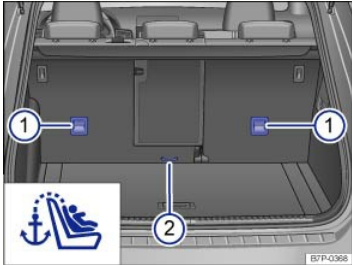

Fig. 79 Anchorages for the top tether strap on the back of the rear seat.
**The rear seat bench has fixed anchorages and pull-out anchorages ⇒ Fig. 79 .**
- ① Fixed anchorages for the outboard seats.
- ② Pull-out anchorages for the center seating position.
- Attach the tether strap anchorage hook into the opening of the tether anchorage ⇒ Fig. 79.